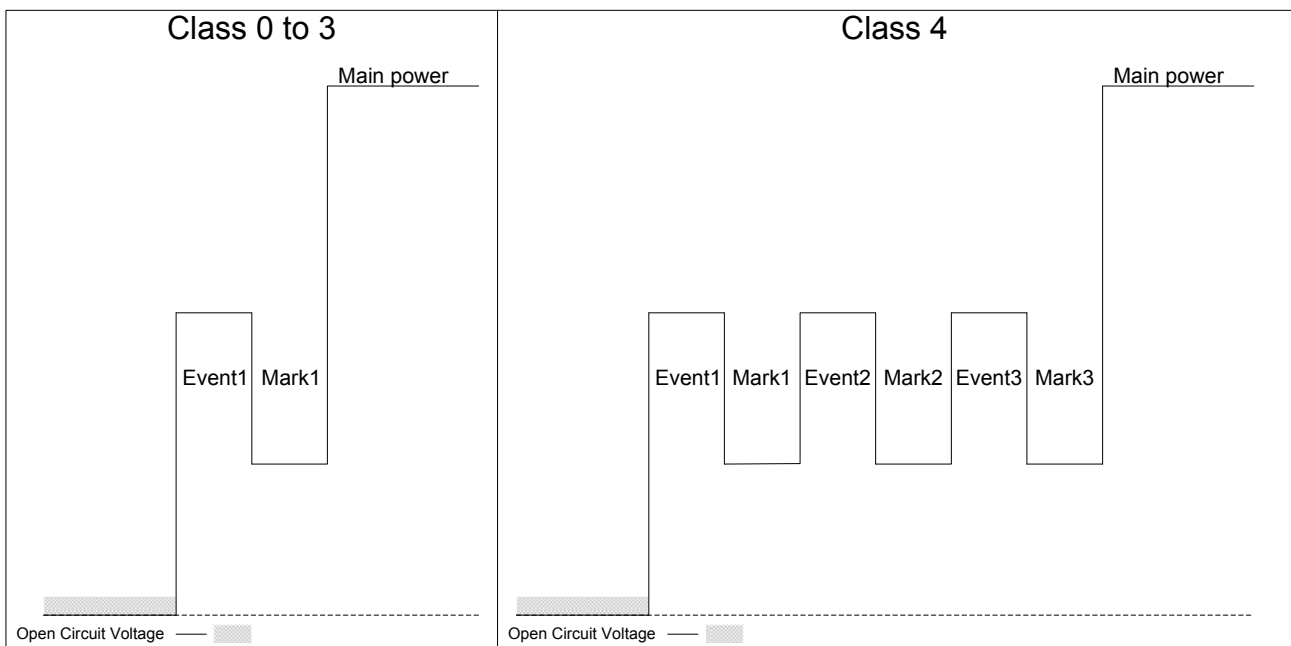

Figure 6: Classification
| Figure 6: Classification..... | 8 |
Upon the successful completion of a signature check, the Ag6600 will then check the Class setting of the Powered Device (PD). The Port output will give one of the two waveforms (shown in Figure 6), dependant on the Class setting of the PD.